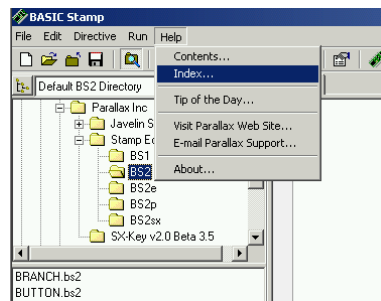

Figure 1-45
- ✓ In the BASIC Stamp Editor, Click *Help*, then select *Index* (Figure 1-45).